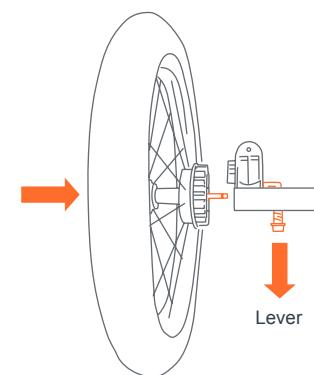

Fig. 6
- 6)** • Lean the stroller forward to rest on the front wheel. To attach the rear wheels, push each wheel's axle into the plastic corner fitting (Fig. 6). Depress the metal lever on the inside of the corner fitting as you push the axle into corner fitting. When the wheel will not go on any farther, release the lever.